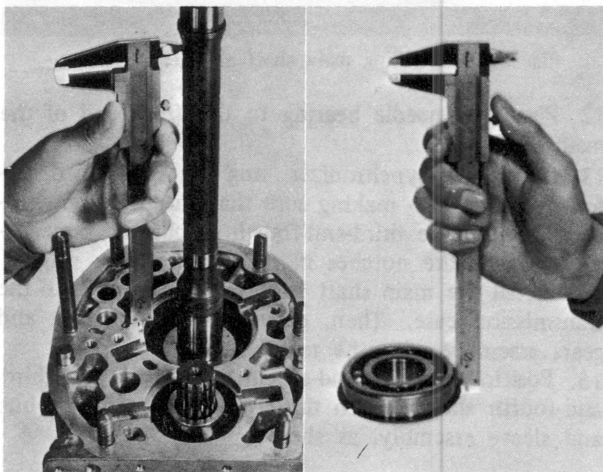

Fig. 7-23 Checking main shaft bearing end play
17. Check the main shaft bearing end play, proceed as follows: Measure the depth of the main shaft bearing bore in the clutch housing by using a depth gauge. Then, measure the main shaft bearing height shown in Fig. 7-23. The difference between the two